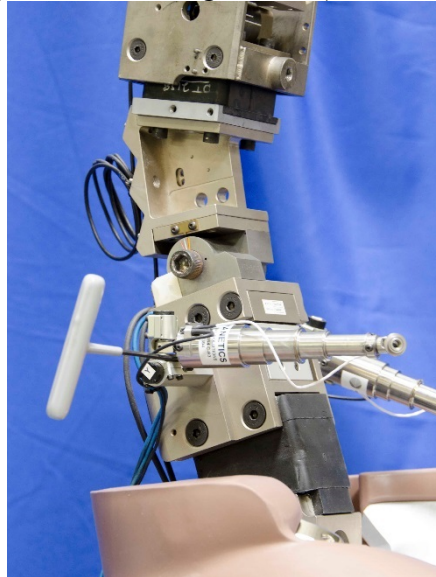
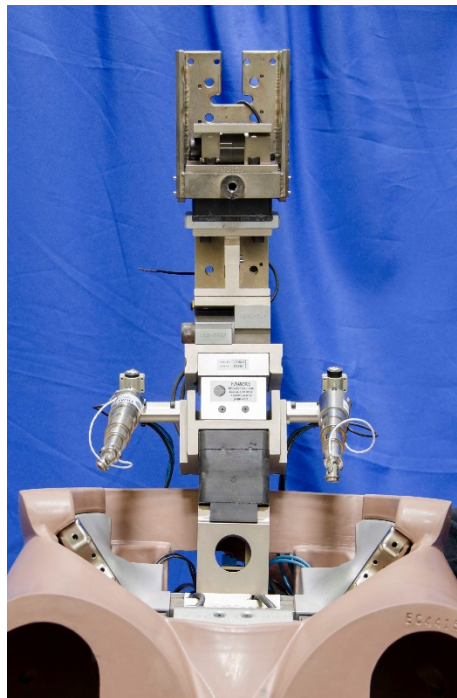

Figure 6-20. Attach lower thoracic IR-TRACCs to thoracic spine
Figure 6-21. Lower thoracic IR-TRACCs installed
- 6.2.2.16 To attach each of the Lower Thoracic IR-TRACC Assemblies to the Thoracic Spine Load Cell Adaptor Plate (472-3730) use two M4 X 0.7 X 8 mm SHCS per assembly (Figure 6-20 and Figure 6-21).